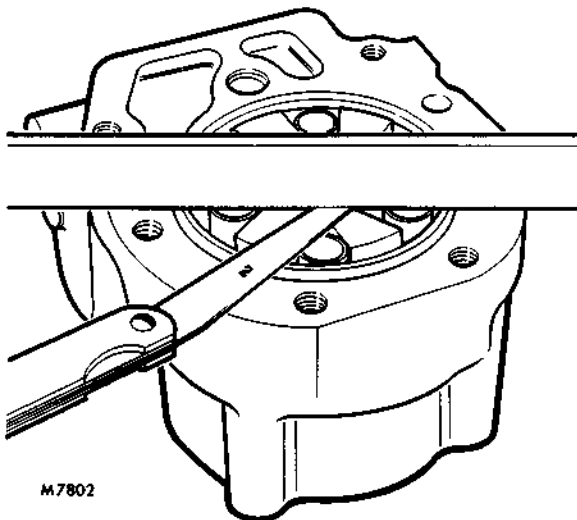

FIG. 3. CHECKING CARRIER AND ROLLER END CLEARANCE
4. Check with feeler gauge the clearance between cam surface, carrier and roller vanes, see Data and Fig. 3.